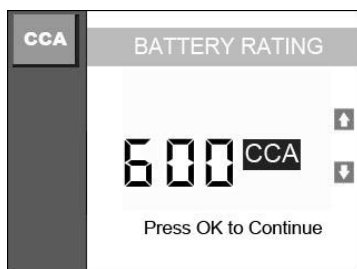

Figure 9.5
7. For example, select CCA in the list and press **OK** button to continue. Then the screen shows as Figure 9.5. Press the **UP/DOWN** scroll button to increase or decrease rating units by 20 units and then press **OK** button to confirm.
GOOD BATTERY	The battery is normal and ready for service. (Figure 9.5)